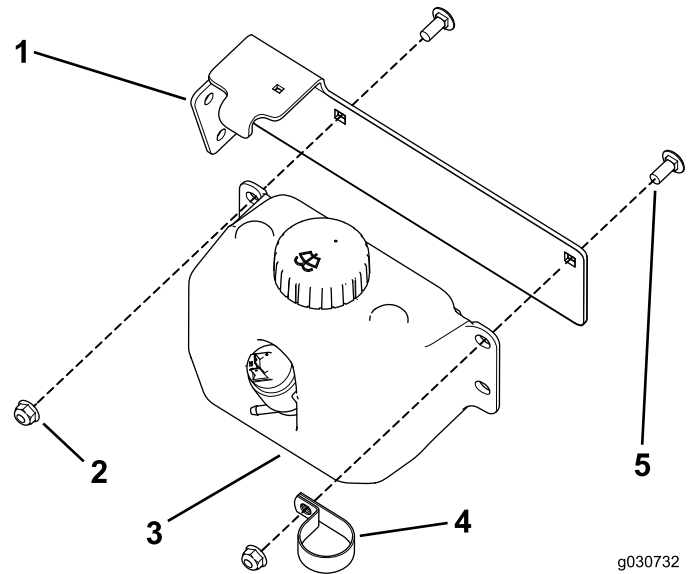

Figure 32
3. Use the 2 carriage bolts and locknuts to secure the washer bottle and R-clamp to the tank mount (Figure 32).